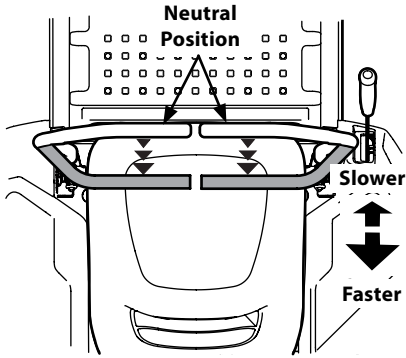

Figure 3-7
1. Slowly and evenly move both drive control levers rearward. The tractor will start to move in the reverse direction. See Figure 3-7.